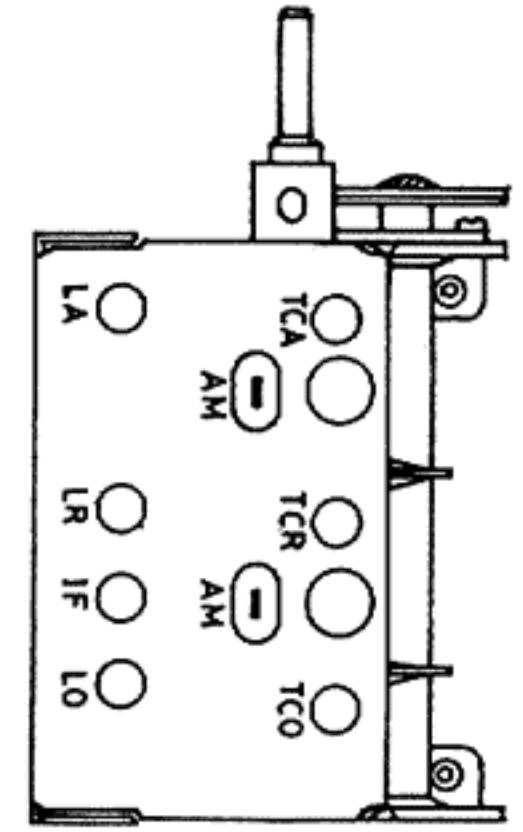

Fig. 11
- Alignment : Repeat alignment core of T103 until maximum gain and symmetry (See Fig. 11).